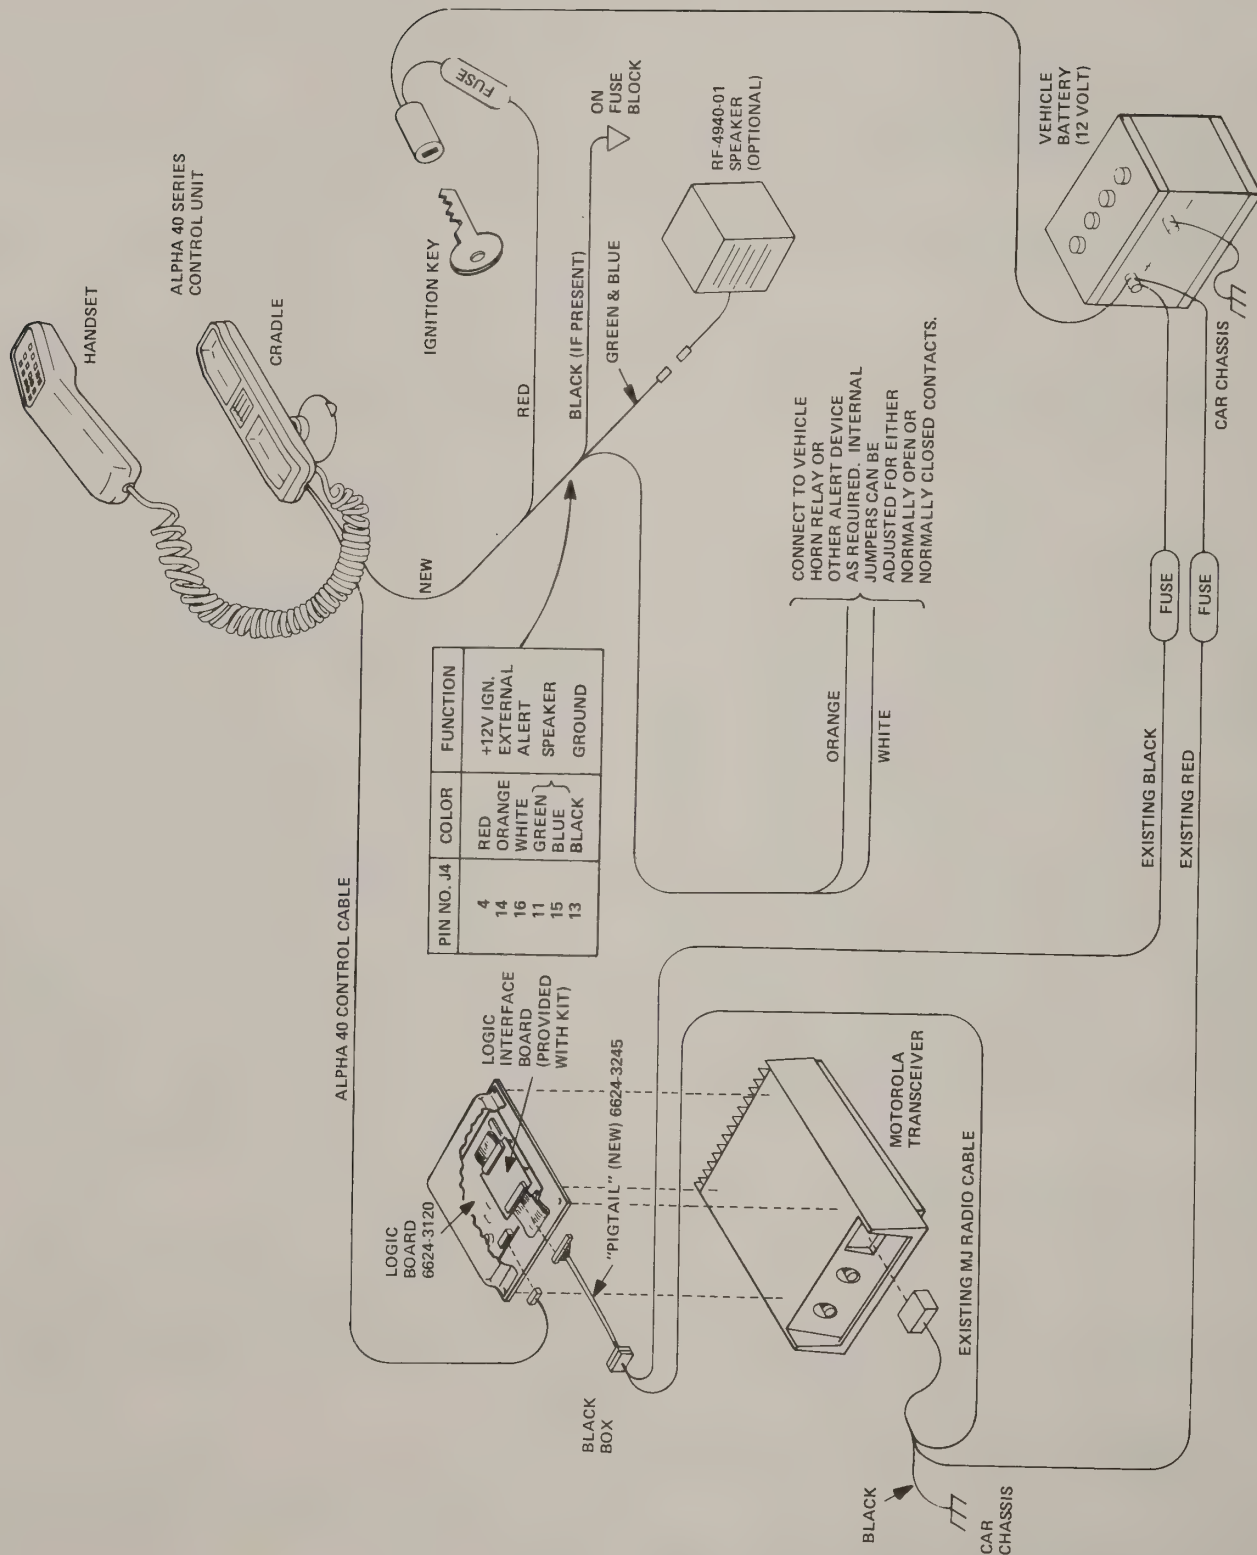

Figure 6-1. Typical ALPHA 40 Control Unit Installation with Motorola Transceivers
1.02 Figure 6-1 shows the cabling and wiring of a typical Motorola modification.